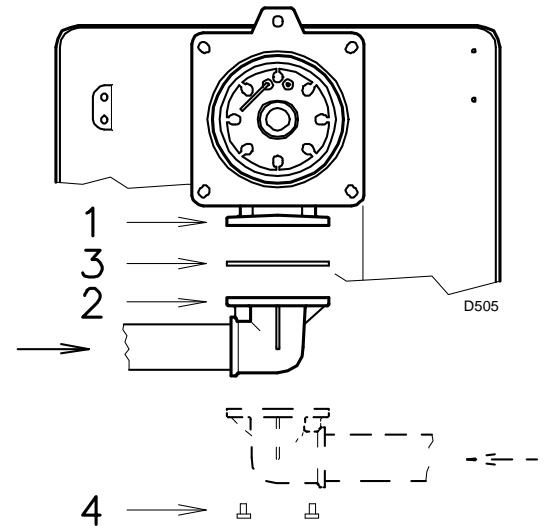

Fig. 17
- The gas train can enter the burner from the right or left side, depending on which is the most convenient, see Fig. 17.
- The gas train must be connected to the gas attachment 1)(Fig. 17) with the flange 2), the gasket 3) and the screws 4) supplied with the burner.